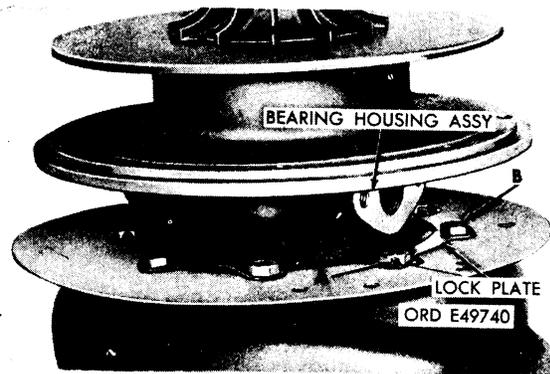

FIGURE 19. PREPARING TO REMOVE BEARING HOUSING ASSEMBLY AND RELATED PARTS - TURBOCHARGERS 7748900 AND 10935279.
- (2) Refer to figure 19. Straighten tabs